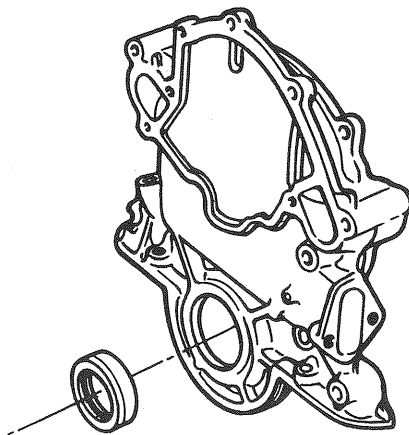

FIG. 56 Installing Crankshaft Front Oil Seal
1. Coat a new seal with grease, then install the seal in the cover. Drive the seal in until it is fully seated in the recess (Figure 56). Check the seal after installation to be sure the spring is properly positioned in the seal.